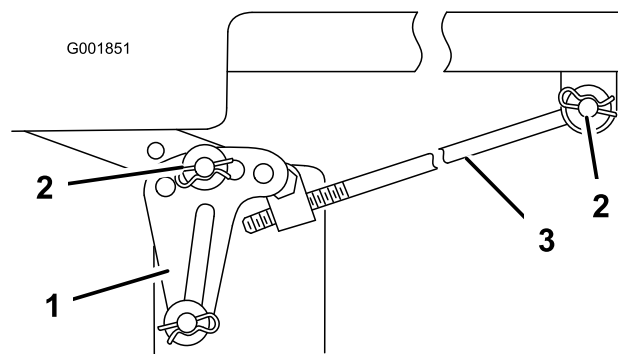

Figure 57
Note: Before removing the mower, make a note for which holes are used in the leveling brackets (Figure 57).
5. Remove the hairpin cotter and washer from the adjusting rod (Figure 57) on each side of the mower.
6. Remove the hairpin cotter and washer at the mower leveling brackets (Figure 57) on each side of the mower. Note which hole the leveling bracket is mounted in for future installation. Slide the brackets off of the mounting pin.
6. Attach the adjusting rod to the machine with the washer and hairpin cotter (Figure 57) on each side of the mower.
7. Slide the leveling brackets onto the mounting pins and secure them with the washers and hairpin cotters (Figure 57).